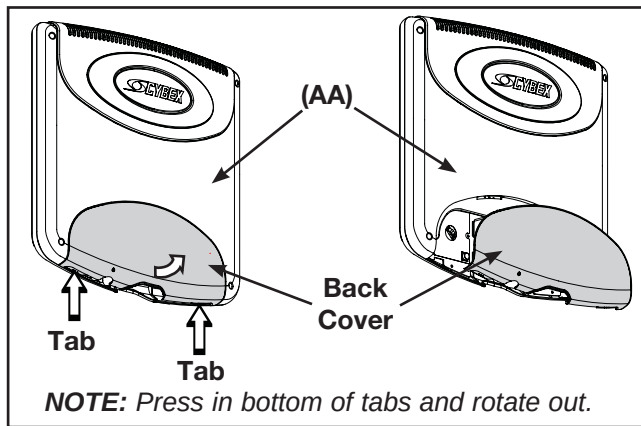

Figure 19
- A.** Locate monitor (AA), four mounting screws (DD), four lock washers (EE) and four flat washers (FF).
- B.** Remove the back cover from monitor (AA) by pressing the bottom tabs of the cover in and rotating out. See Figure 19.